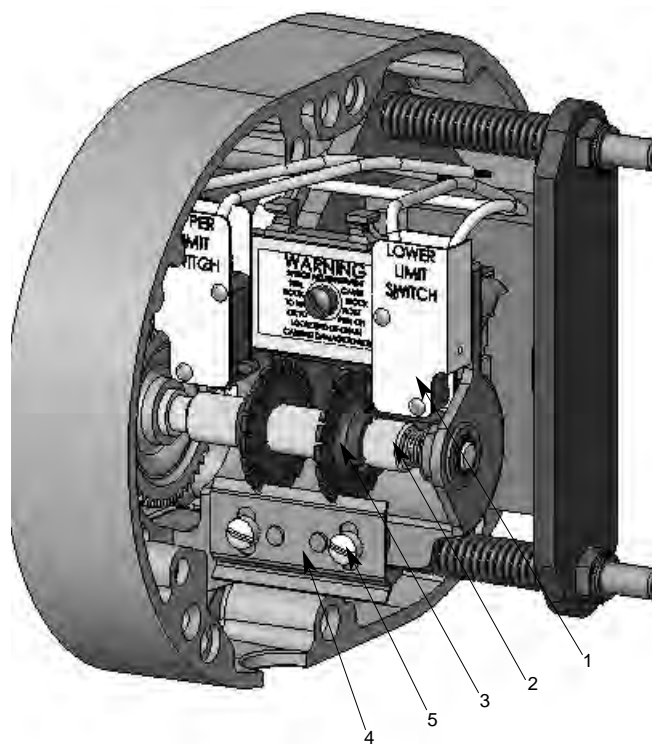
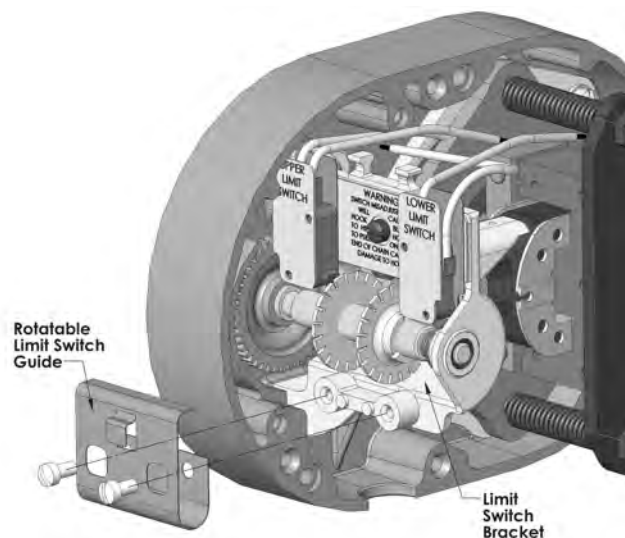

Figure 16. Limit Switches, Models A thru H-2
Figure 16a. Rotatable Limit Switch, Models A thru H-2
- Loosen the screws to permit guide plate to be moved out of engagement with the traveling nuts, refer to Figures 16 and 17. For Rotatable Limit Switch, slightly pull out on the guide spring, disengaging the the travel nut, refer to figure 16A and 17A.